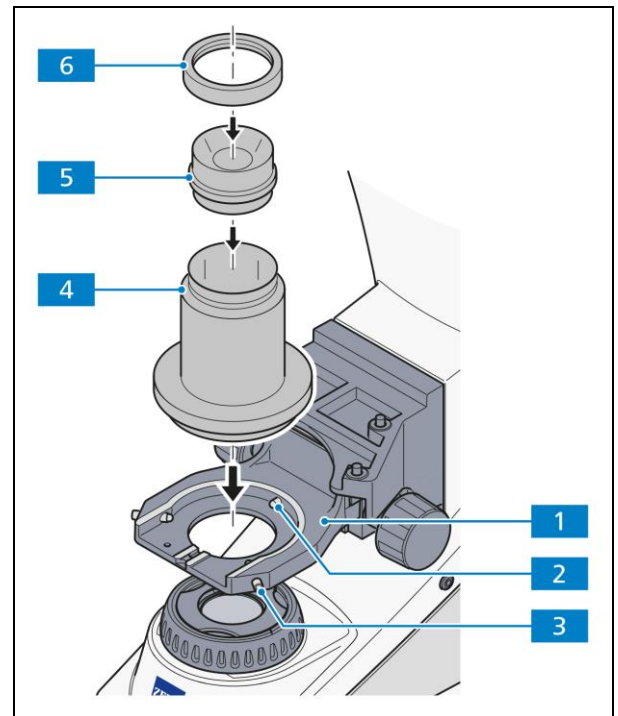

Fig. 3-14 Mounting the darkfield condenser
- Insert the darkfield condenser (Fig. 3-14/5) in the condenser holder Z (Fig. 3-14/4) and screw on the fastening ring (Fig. 3-14/6)
- Push the condenser holder Z (Fig. 3-14/4) against the spring box (Fig. 3-14/2) into the condenser carrier (Fig. 3-14/1).
- Tighten both centering screws (Fig. 3-14/3) on the condenser carrier (Fig. 3-14/1) until they grip the dovetail ring of the condenser holder Z (Fig. 3-14/4).